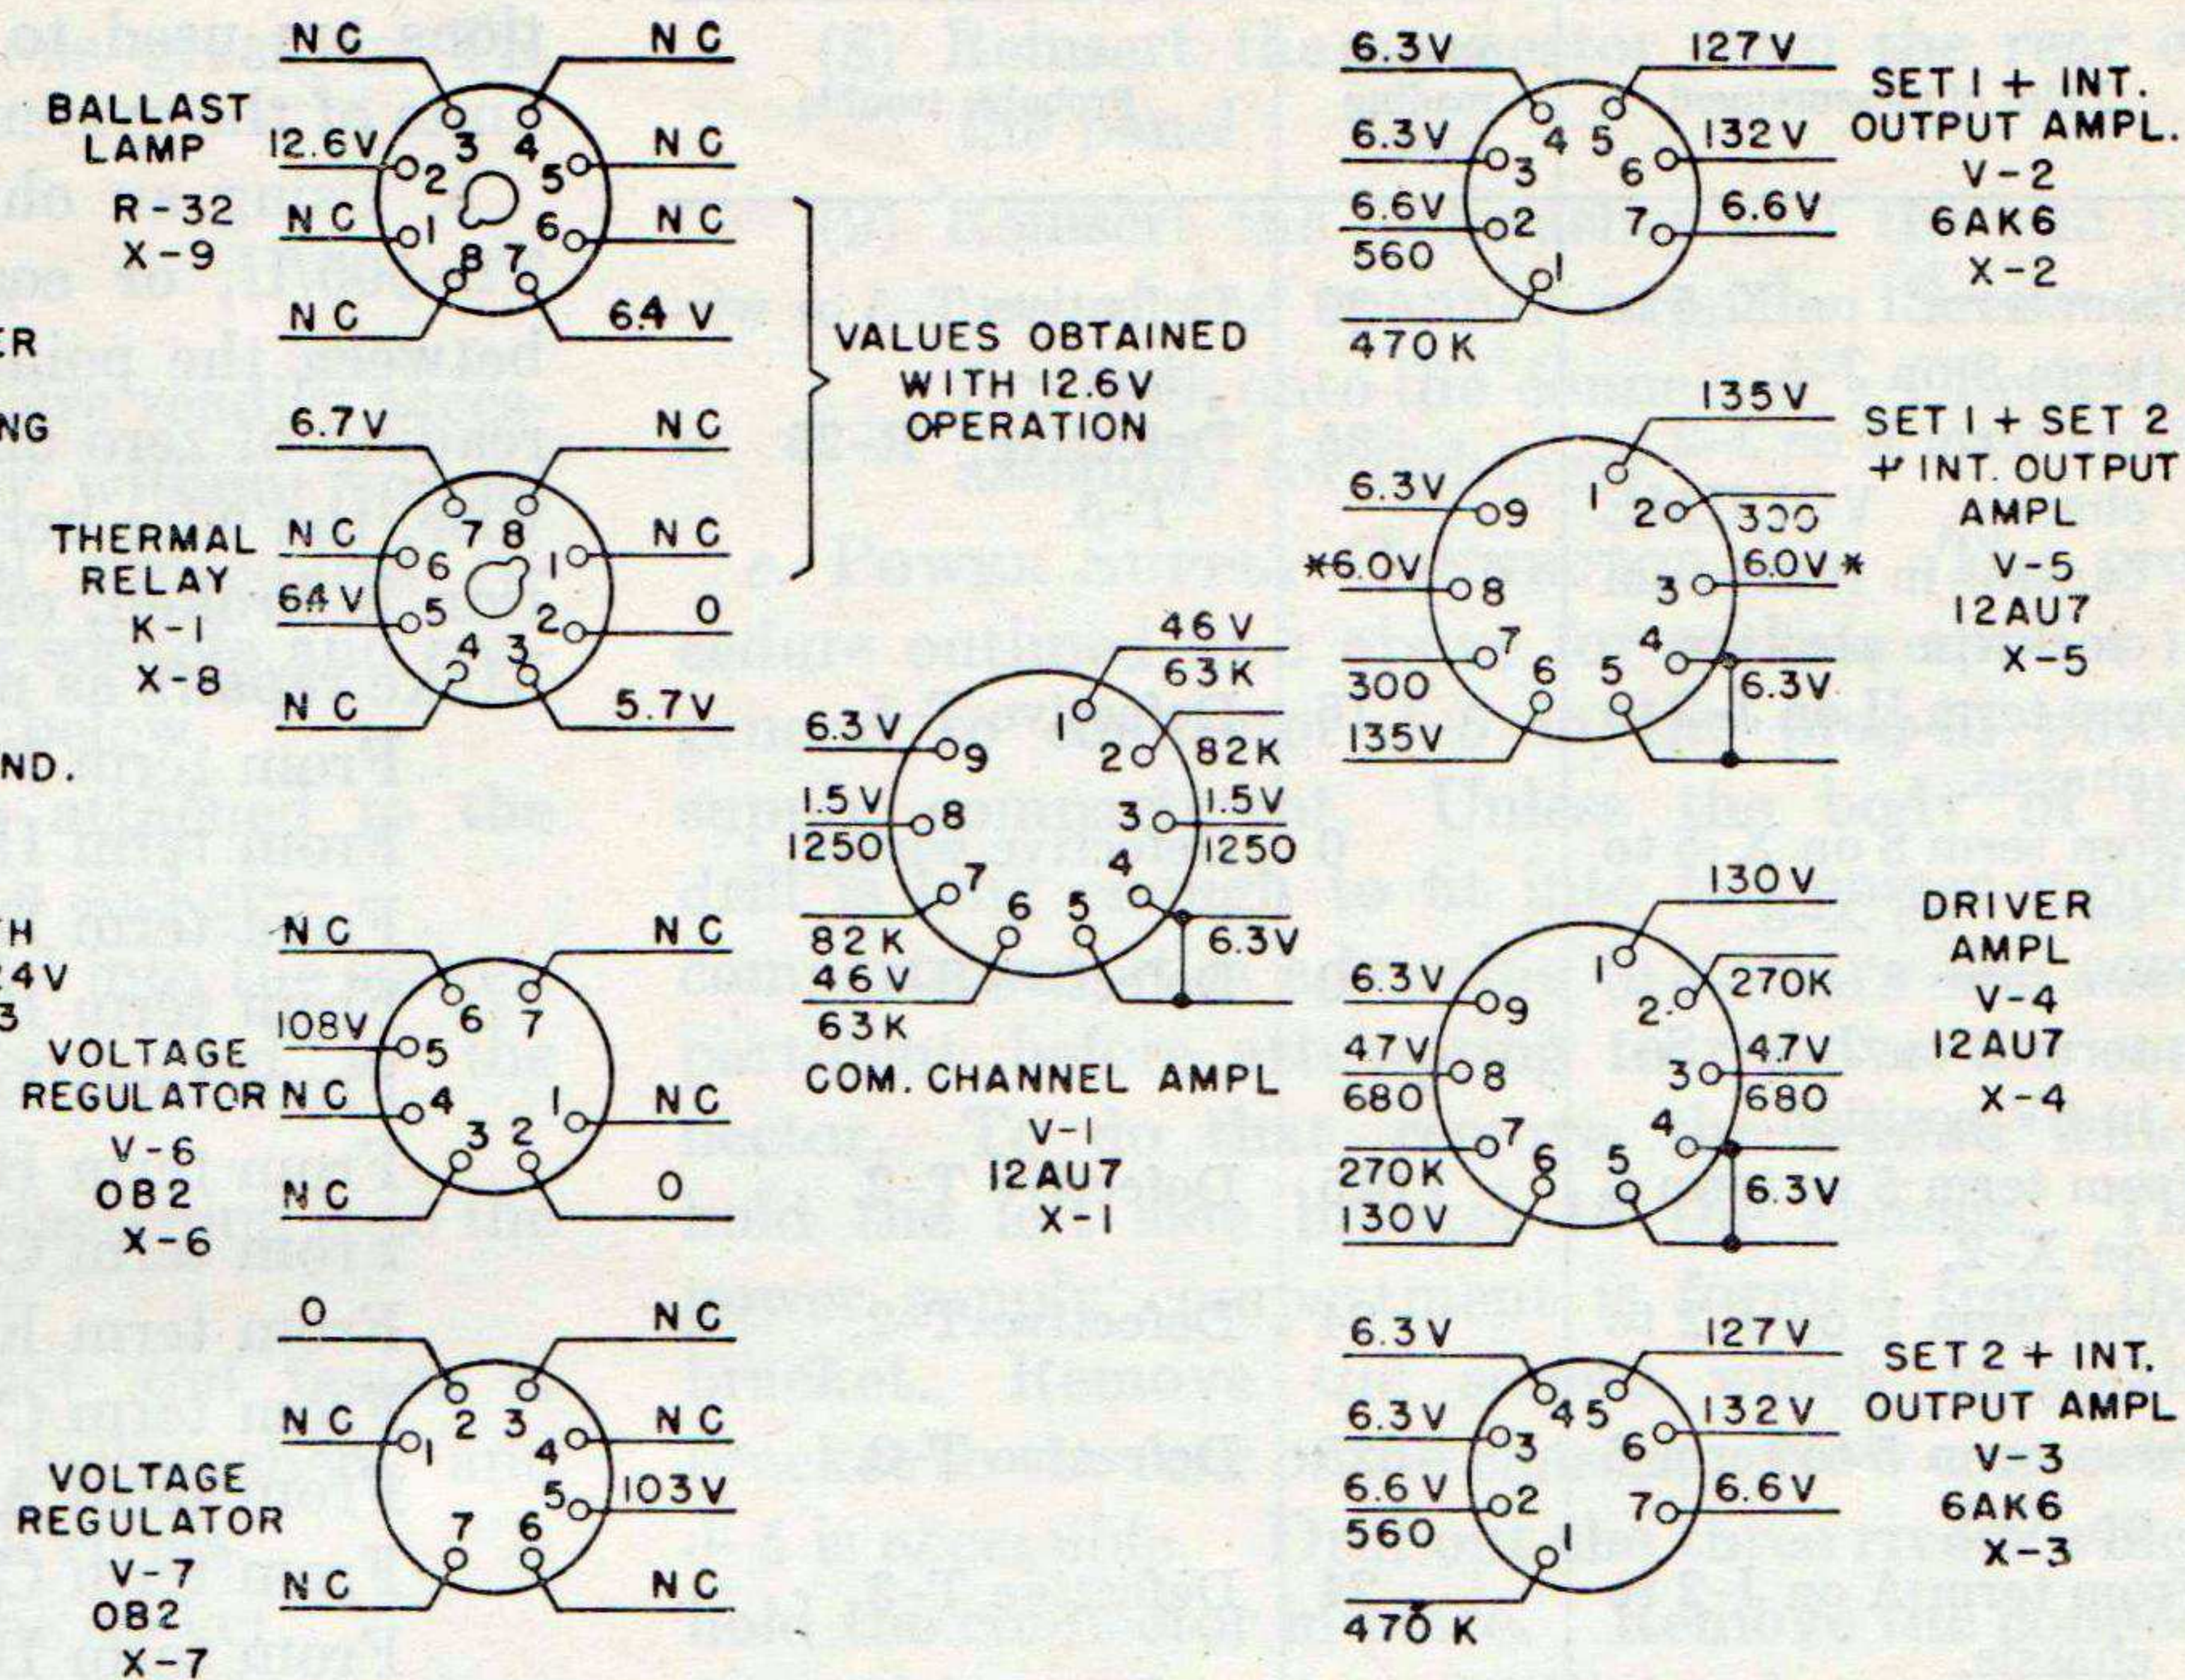

Figure 14. AF Amplifier AM-65/GRC, tube socket voltage and resistance diagram.
- (1) Turn the OFF-INT-RT-70 switch to the OFF position, and pull the tube out of its socket.
- (2) Test the tube by means of a tube checker and, if defective, replace with a good one. If a tube checker is not available, substitute a tube known to be good for the suspected defective tube.
- (3) To isolate trouble in the defective stage measure the voltages and resistances at the tube socket (fig. 14) and other pertinent points (pars. 36 and 37). Note that the information given is merely a guide and should suggest other tests, measurements, and procedures for localizing the trouble to a defective part or wire.
- (4) When a defective part is found, replace it. Repair a defective or broken wire. Isolate and clear the trouble before proceeding with the succeeding step, since each step presupposes the satisfactory completion of all previous steps. Refer to paragraphs 39 through 41 for repair procedures.
Make the pertinent d-c voltage measurements indicated in figure 14. These measurements serve to locate defects which are not readily determined by the resistance measurements of paragraphs 33 and 37, that is, defective capacitors, partially shorted transformer windings, etc. For these measurements, insert all plug-in parts, and connect the battery and load resistors (par. 32). All voltage measurements shown in figure 14, except filament voltages, are made to ground. Filament voltages are measured between the filament terminals of the socket. Refer to the schematic diagram (fig. 17), to identify the circuit components involved in a particular measurement. Note especially the arrangement of amplifier filament wiring for each position of the 6V-12V-24V switch S-1. Required readings are shown above the guide lines from the socket terminals. Use Electronic Multimeter TS-505/U as a voltmeter. Repair any part found by the voltage measurements to be defective.
(fig. 14.)
a. Make the pertinent measurements indicated in figure 14. These measurements all are made from the socket terminal to ground. The required resistance readings are shown below the guide line from the socket terminal. It is not necessary to make all of the measurements shown in figure 14, but only those that are indicated at the tube socket associated with the stage found to be defective by the signal substitution checks of paragraph 35.
b. Make the pertinent measurements listed in the following table. The data given in the table supplements the data given in figure 14.